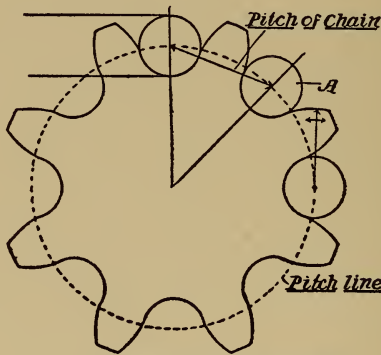

Fig. 125. Sprocket Wheel.
SPROCKET WHEELS.—For sprocket wheels the pitch line passes centrally through the rollers (A) of the chain, as shown in Fig. 125, and the pitch of the chain is that distance between the centers of two adjacent rollers. In this case the cut of the teeth is determined by the chain.